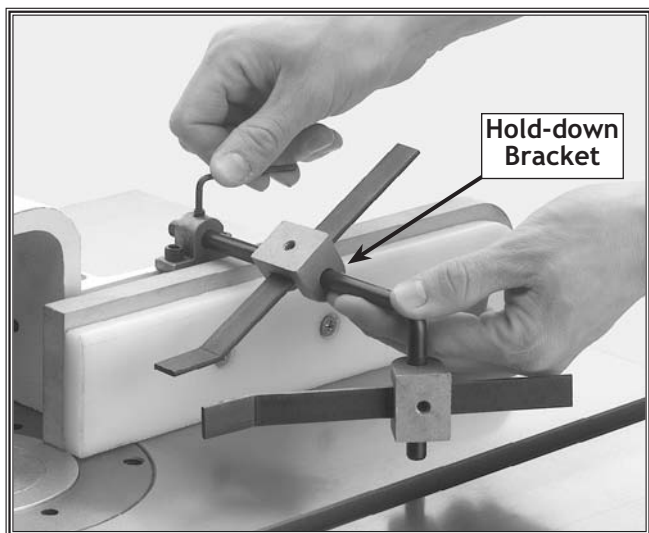

Figure 15. Assembling hold-down mechanism.
1. Install two aluminum hold-down brackets onto each of the hold-down bars as shown in **Figure 15**.
2. Insert the long end of the hold-down bar through the hole in the fence mount as shown in **Figure 15**.
4. Screw in, but do not tighten, the $\frac{1}{4}$ "-20 x $\frac{3}{8}$ " setscrews into the aluminum hold-down brackets as shown in **Figure 15**.